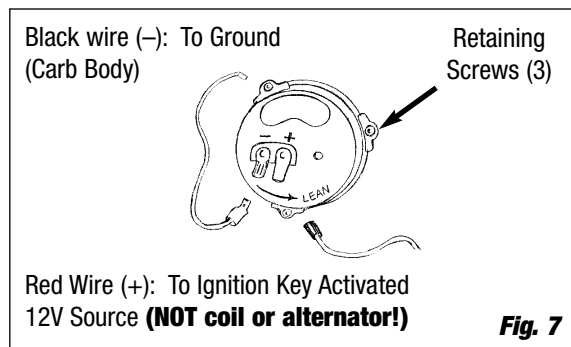

Fig. 7
3. On electric choke models (See Fig. 7), remove one choke housing retaining screw and install eyelet end of choke ground wire (black) to the choke housing, and reinstall the screw. Connect clip end of choke ground wire to negative (-) spade terminal on choke housing.
volt positive (+) source that is activated by the ignition switch (**Not the coil or alternator; see Fig. 7).**